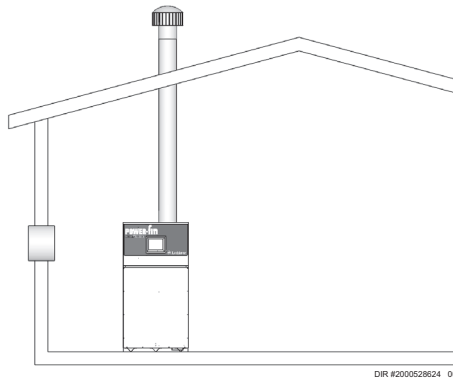

Figure 1-5 Combustion Air from Outside - Single Opening
4. If a single combustion air opening is provided to bring combustion air in directly from the outdoors, the opening must be sized based on a minimum free area of one square inch per 3000 Btu/hr (7 cm² per kW). This opening must be located within 12" (30 cm) of the top of the enclosure (see FIG. 1-5).